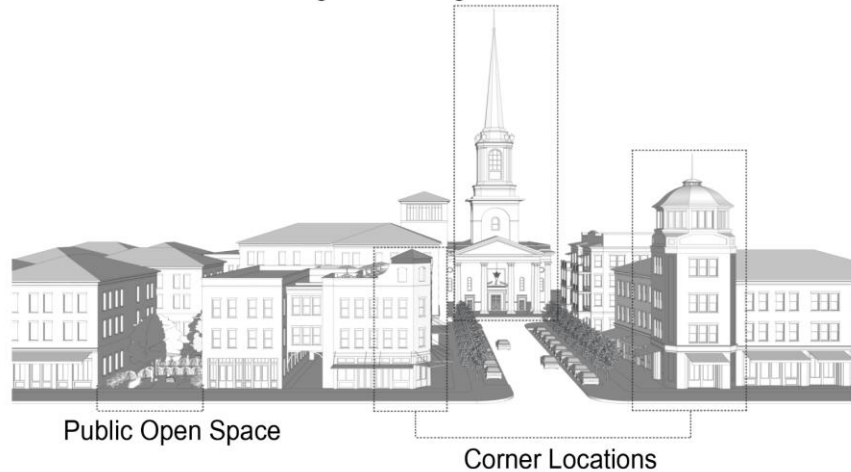

Figure 4: Example of Building Articulation
- b. Building Articulation.** Building articulations that respond to the site's unique urban condition, such as but not limited to locations on corners, near public open spaces, terminating the visual axis of a street, and/or that emphasize main building entries, shall be clearly expressed in the design (Figure 4).